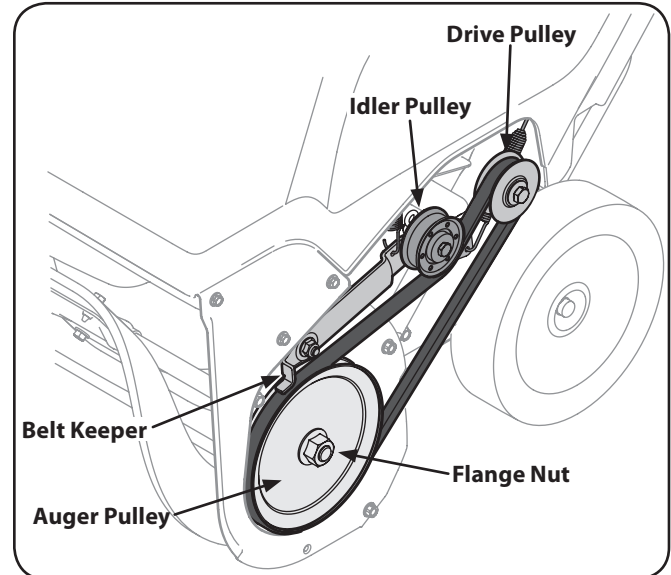

Figure 7-3
To replace the belt follow these instructions and refer to Figure 7-3:
1. Route the belt around the drive pulley and under the idler pulley. See Figure 7-3.